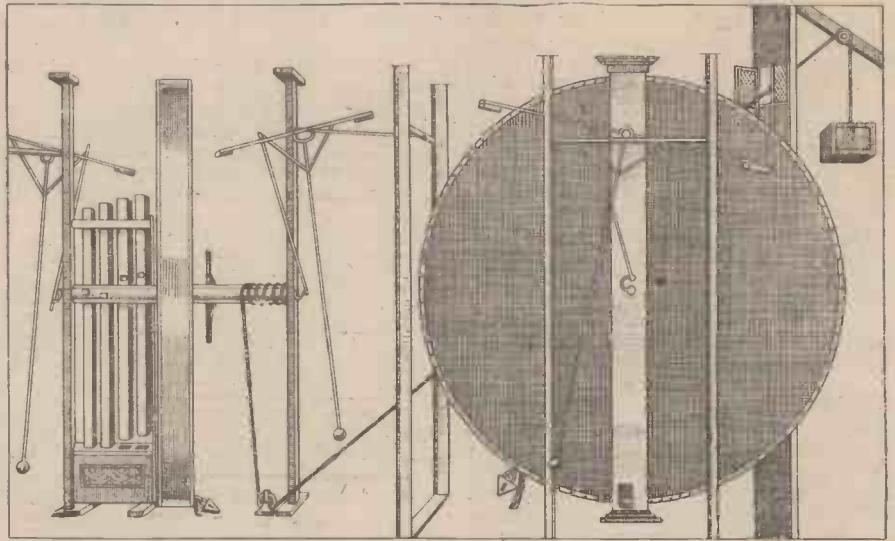

Fig. 1.—The original Orffyreus wheel (from an old print).
**A**MONGST the many "perpetual motion" devices which have been produced by harmless but well-meaning "cranks" in the past is the wheel made and exhibited by Councillor Orffyreus in 1717. Previous to this Orffyreus had constructed three other wheels of smaller diameter, but his last and largest wheel was 12ft. in diameter. This strange machine, which is illustrated in Fig. 1, is a hollow drum of very light construction, about 14in. thick and covered with canvas. Through the centre of this wheel or drum runs an axle of about 6in. diameter, terminating at both ends in iron axles of about 3in. diameter upon which the machine turns. It is on record that this wheel revolved freely at 26 revolutions per minute, and by means of a cord tied to an axle was capable of turning an Archimedeian screw for raising water. It is also stated that an official test of the machine took place from November, 1717 to January, 1718, when the room containing the revolving wheel was securely locked and the windows sealed. At the end of the test the seals were broken and the room opened, when it was found that the wheel was revolving with its accustomed regularity. Some time after this test Orffyreus, in a fit of rage, destroyed the machine, the working of which remained a mystery.